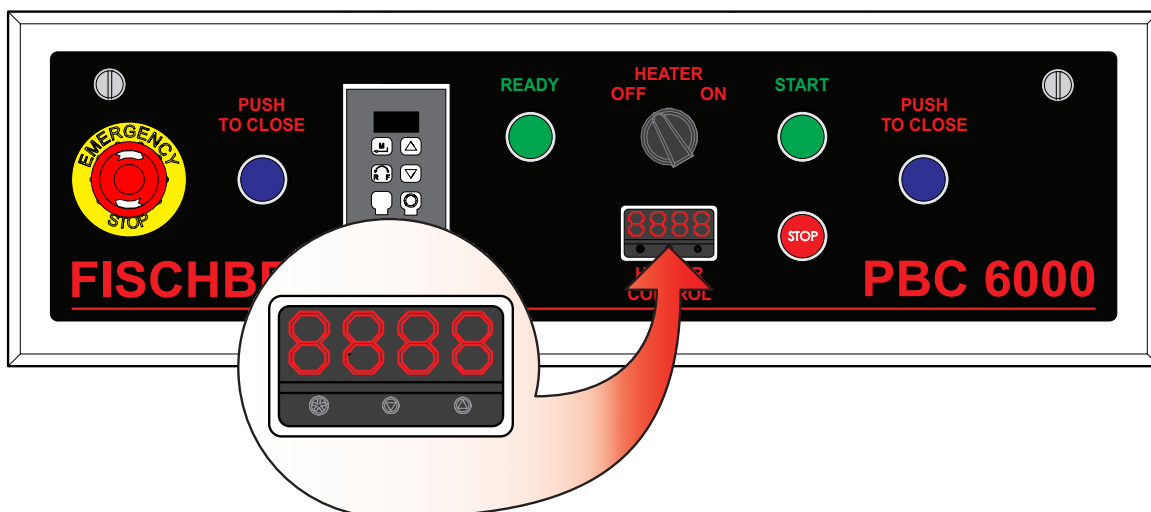

Figure 5-19: Temperature Controller
Within the heater manifold is a thermocouple, monitored by the heat controller. The controller on the front electrical control panel uses the information from the thermocouple to monitor and adjust the heater. To adjust the temperature to the heater, use the controller on the electrical control panel (see Figure 5-19: Temperature Controller).
1. To display the set point, push and hold in the * button. The display (see Figure 5-19: Temperature Controller) will alternate between the set point temperature and the temperature scale (°C for Celsius and °F for Fahrenheit).